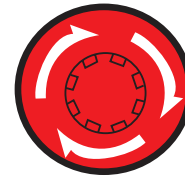

Figure 64. Emergency Stop Switch
1. To stop the engine in the event of an emergency, press the **Emergency Stop switch** (Figure 64).